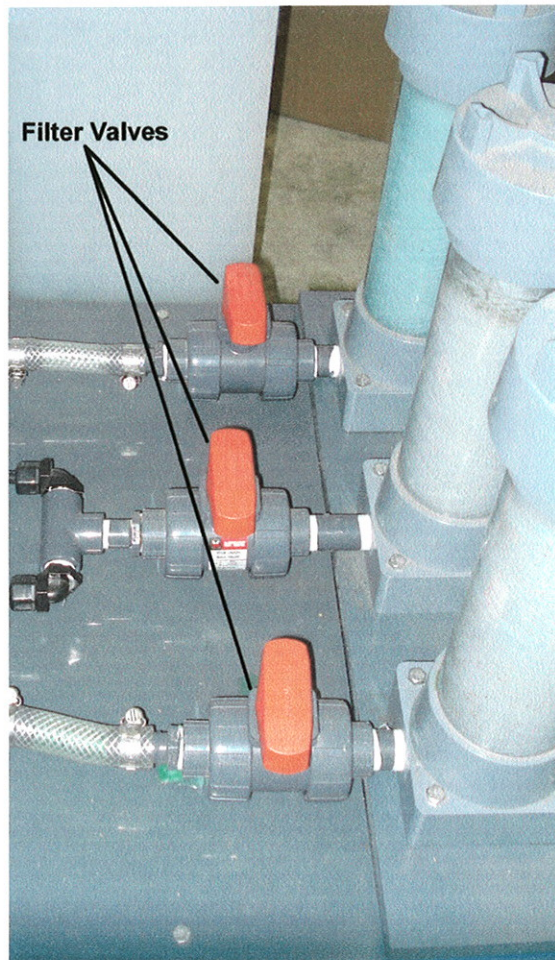

Figure 5. Filter Valves
6. Open 3 valves behind filters (figure 5).
- c. Close 3 valves behind filters (figure 5).